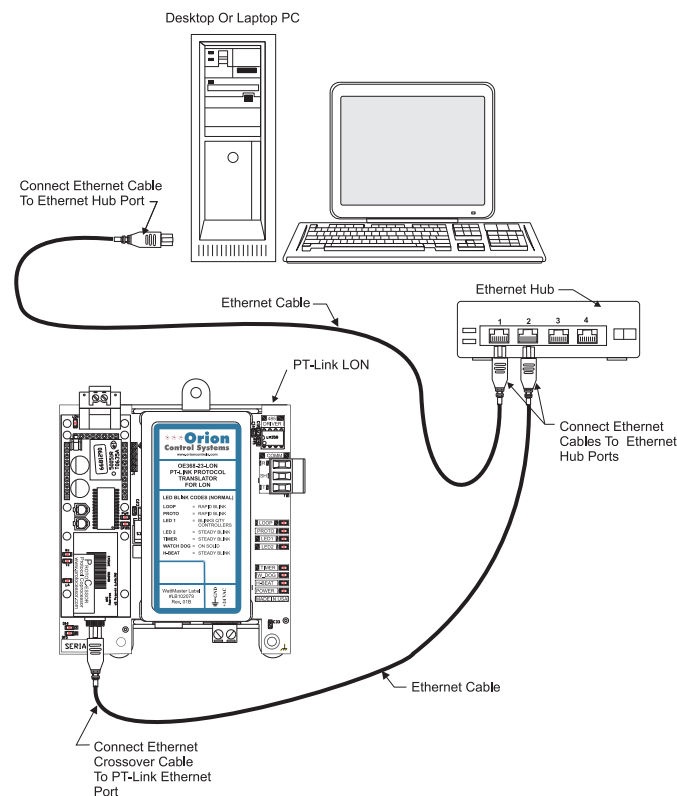

Figure 4: Connecting With Ethernet Cable & Hub
- 2.) You can also connect both your PC and the PT-Link to an Ethernet Hub with standard CAT5 cables. **See Figure 4** for details.